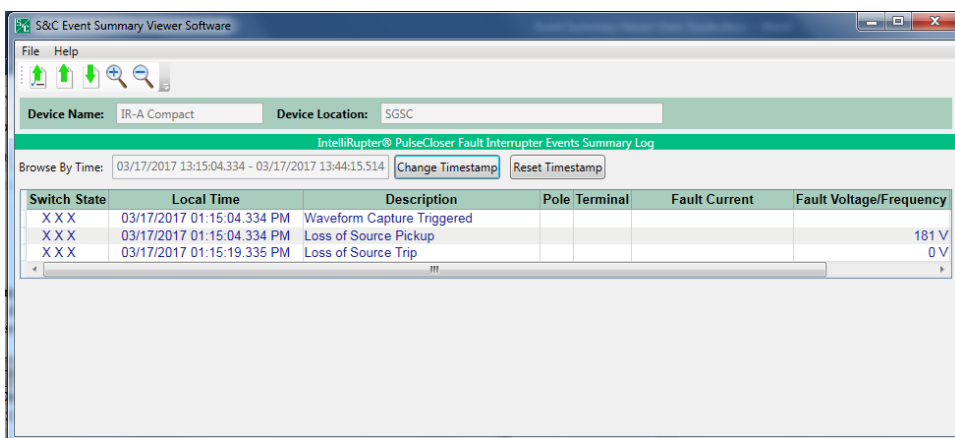

Figure 19. The Event Summary log with a custom time range.
STEP 2. Enter a correct date range (start date < end date) and click on the **OK** button. See Figure 19.